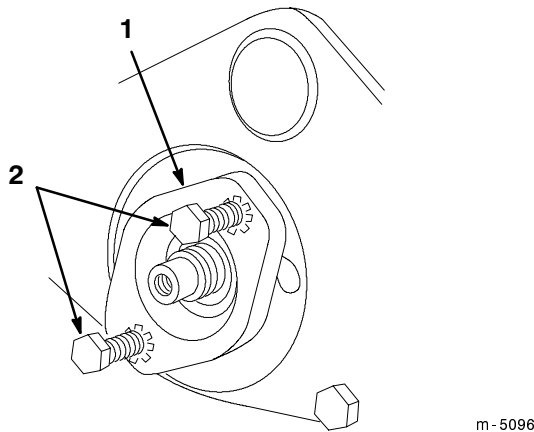

Figure 15
4. Remove the mounting bolts from the bearing housing on both ends of the cutting unit (Fig. 15).
5. Using a plastic headed hammer, rotate the bearing housing slightly, install the bearing housing bolts from the outside housing, turn the bolts alternately against the side plate, and remove the bearing housing (Fig. 15).